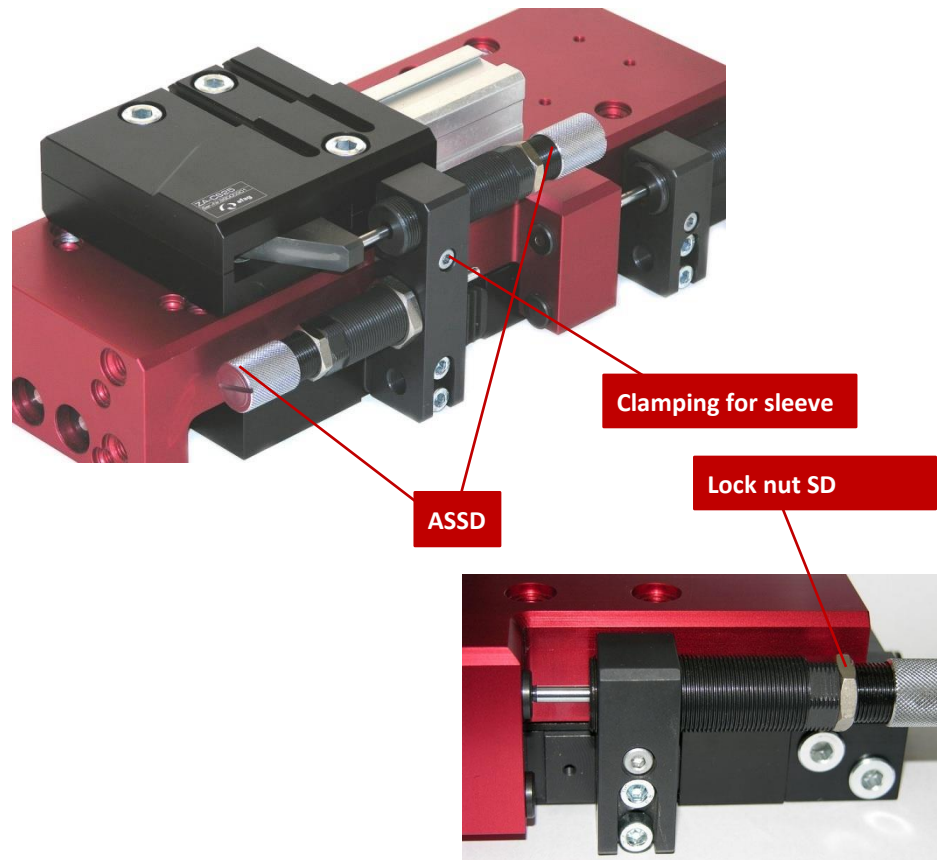

Fig. 20 Fine adjustment stop screw
1. Slightly loosen the clamping screw or nut (Fig. 20).
3. Tighten the clamping screw or nut (Fig. 20) again.